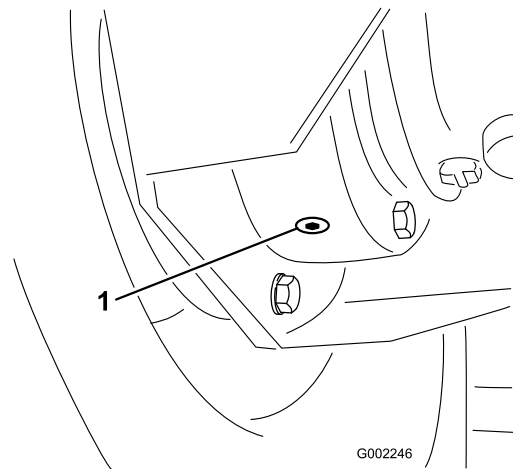

Figure 67
4. Place a pan under the inner drain plug and remove it (Figure 67).